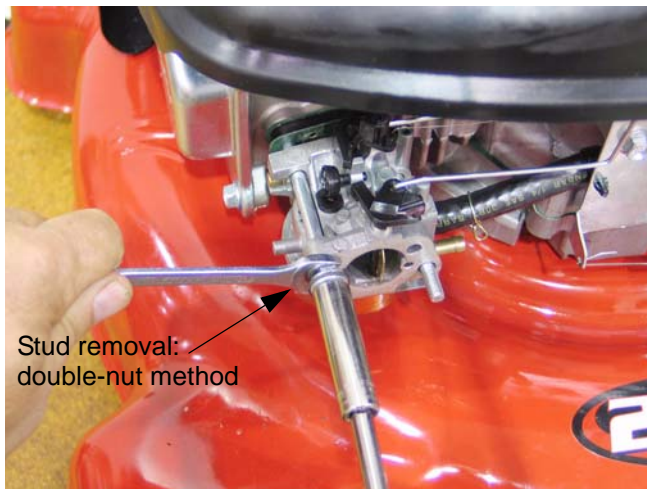

Figure 8.16
8.16. Double-nut the studs for removal, with a washer between the nuts serrated faces of the nuts. See Figure 8.16.